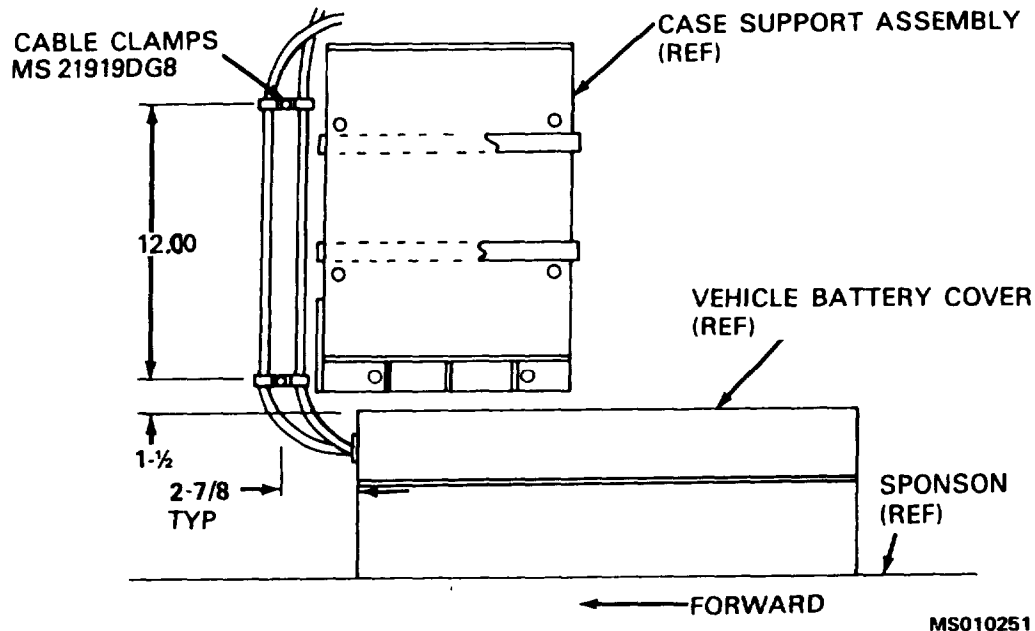

FIGURE 3-8. CABLE CLAMP LOCATION
a. Layout and mark hole pattern for cable clamps to the dimensions shown in figure 3-8.
- h. Mount the cable clamps using two screws and two washers as shown in figure 3-8.